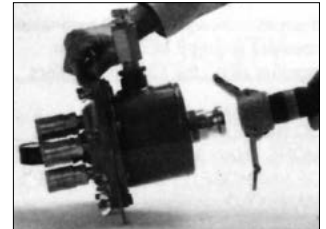

Figure 3
- c) Attach the pod(s) to the end of the V60 hose. They should be connected so that the handle and pressure relief valve are on top of the pod (See Figure 3).